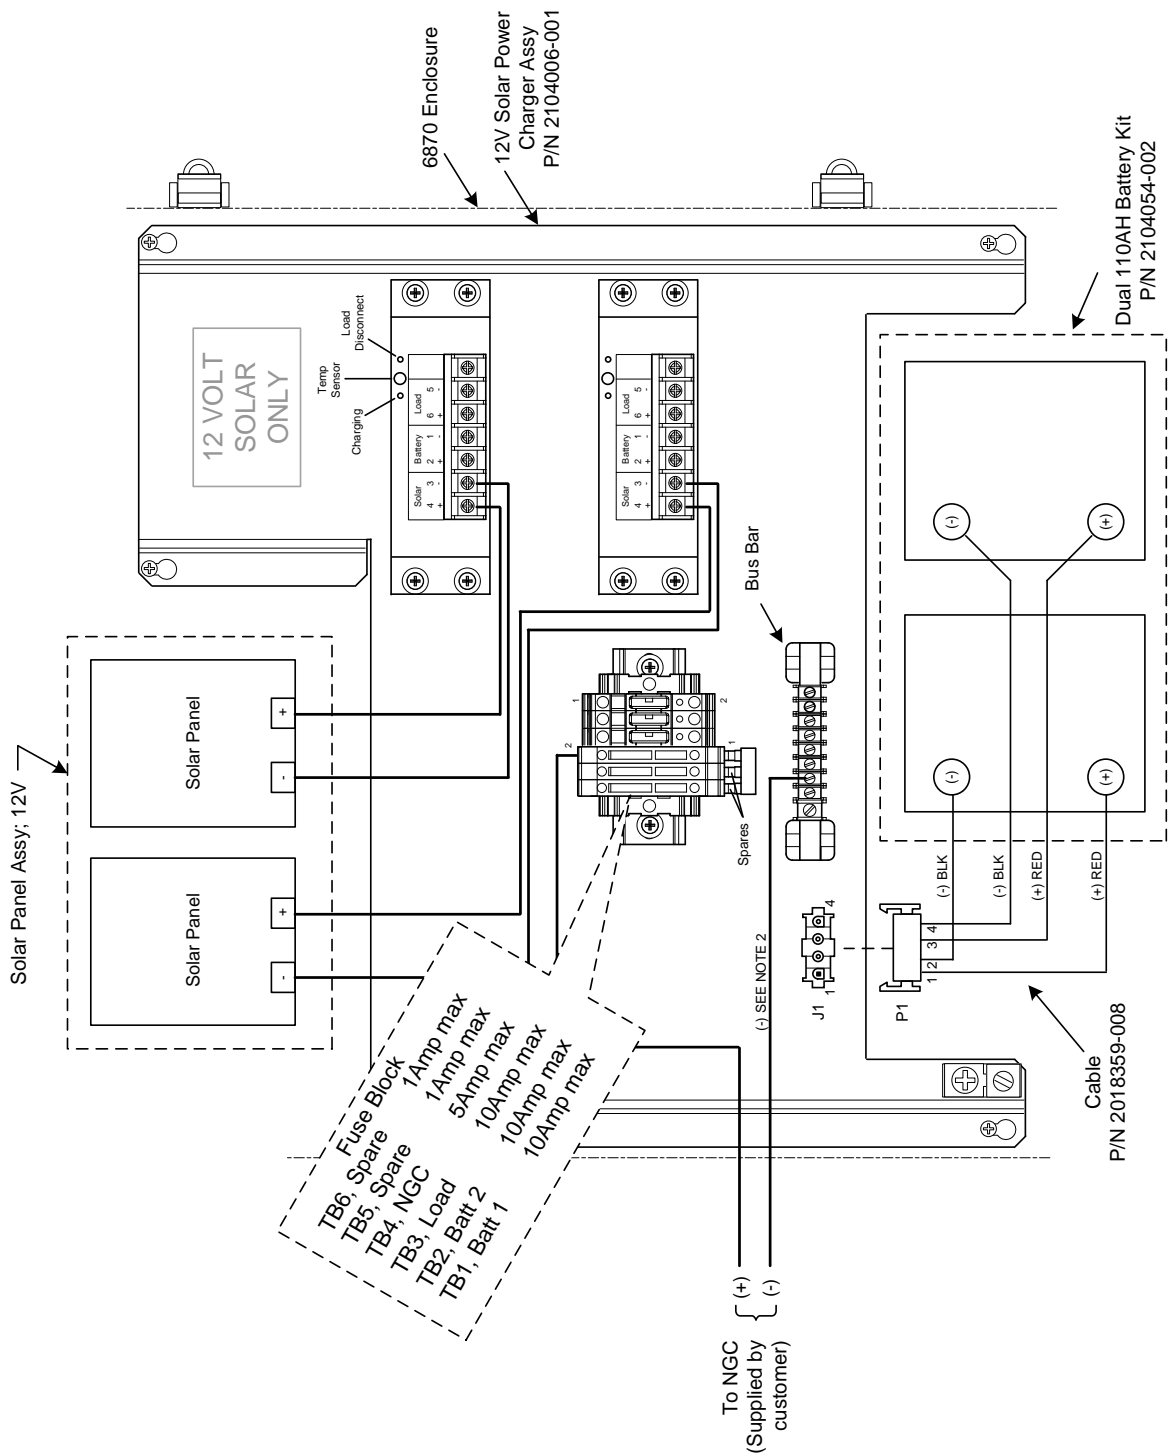
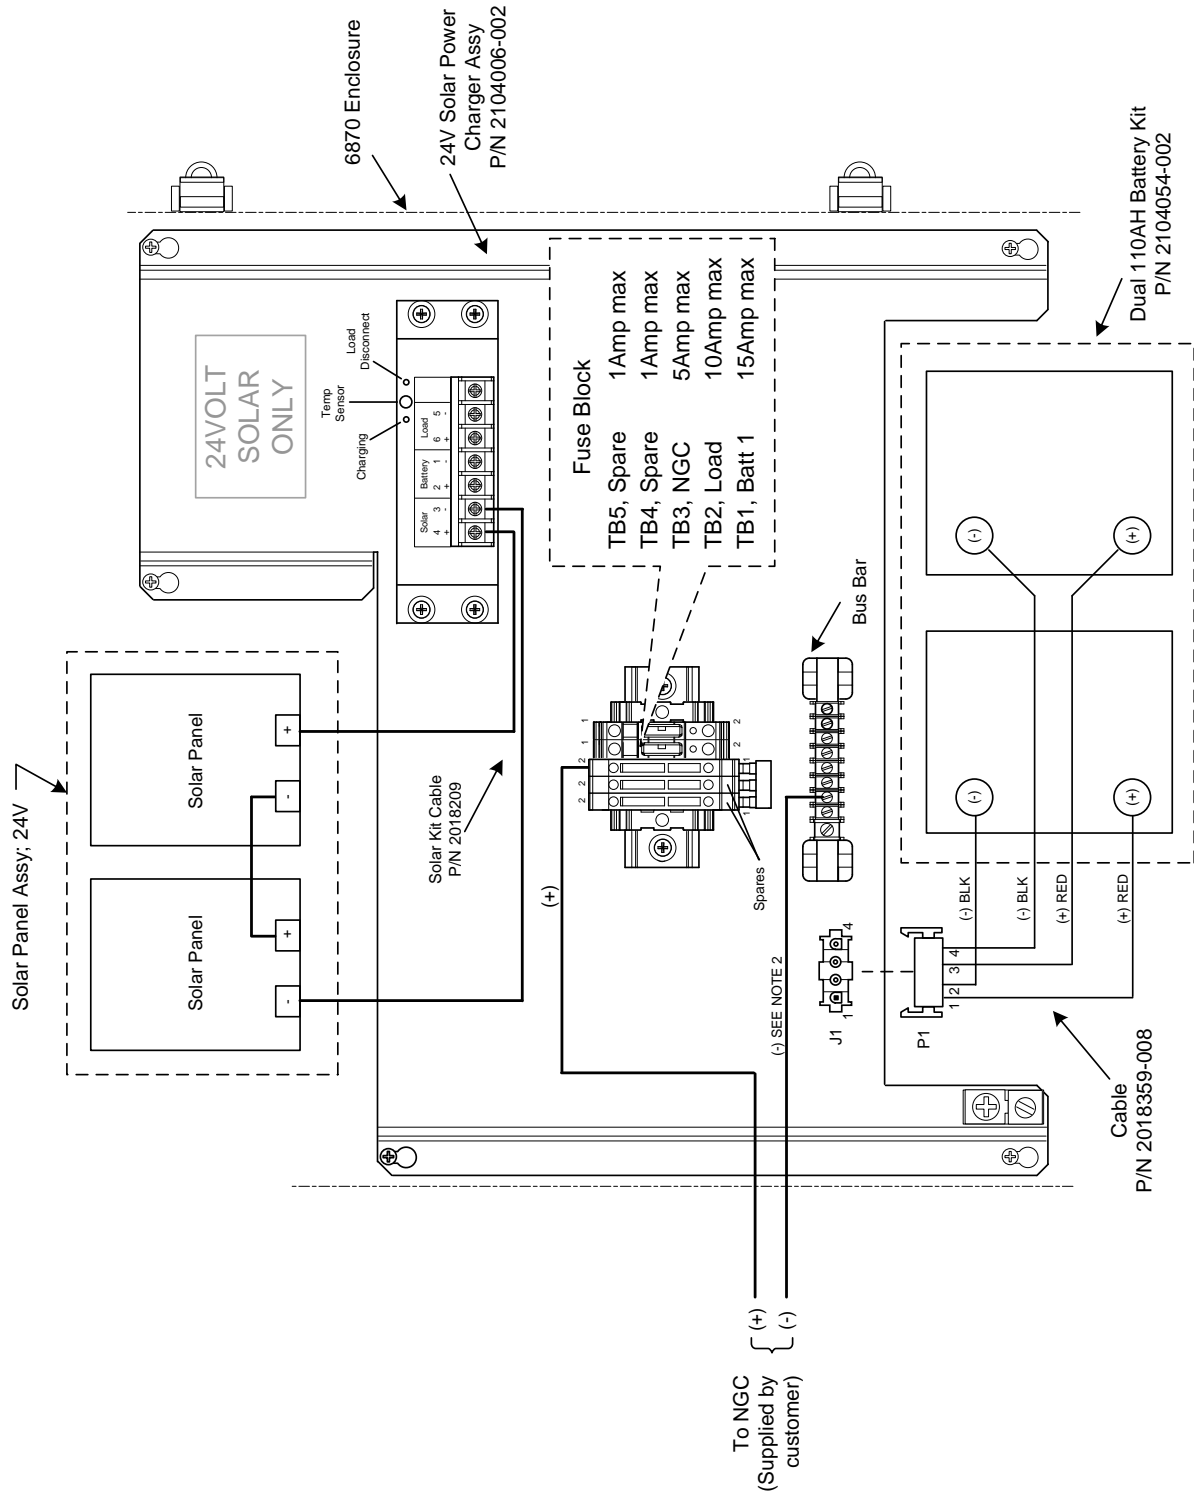

Figure 3-78 12 VDC Battery Pack/Solar Panel Wiring Instructions
Figure 3-79 24 VDC Battery Pack/Solar Panel Wiring Instructions
- 4) Field wire the solar panel cables to the solar charger inside the enclosure. Use the wiring instructions in Figure 3-78 for 12 VDC, or use Figure 3-79 for 24 VDC, to make the field connections.